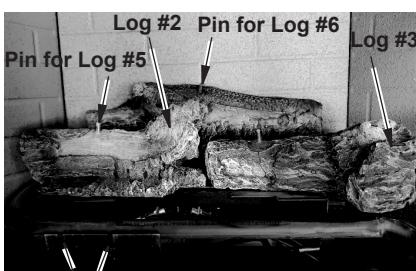

Figure 17 - Installing Logs #2 and #3
1. Install pins on log #1 into the two slots in the bracket attached to rear wall (see Figure 17).
2. Install pins on log #2 into the two slots in left side of the middle bracket (see Figure 16 and Figure 17).
3. Install pins on log #3 into the two slots in right side of the middle bracket (see Figure 16 and Figure 17).
4. Install pins on log #4 onto the two slots in the front bracket (see Figure 17 and Figure 18).
5. Insert the recessed hole on the bottom of log #5 onto the pin on log #2 (see Figures 17 and 18).
6. Insert the recessed hole of log #6 onto the pin on log #3 (see Figures 17 and 18,).